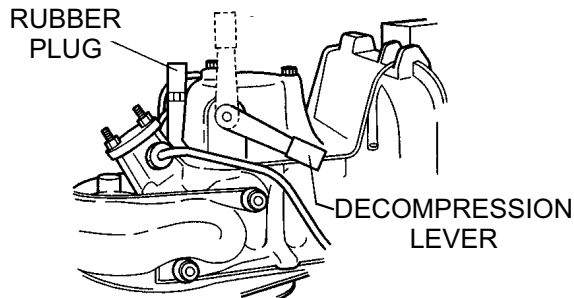

**Figure 40. Fuel Filter**
3. To clean the fuel filter, loosen the nuts (Figure 40) of the fuel cock and pull out the filter from the F.O. tank filler port. Wash the filter thoroughly with diesel fuel oil.